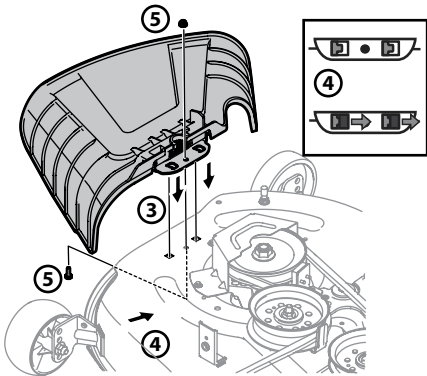

Figure 2-13
3. Place the chute deflector on the deck, be sure to insert the tabs on the chute deflector into the holes on the deck. See Figure 2-13.
4. When the tabs are installed in the deck, slide the chute deflector toward the rear of the tractor until the bolt hole in the chute deflector aligns with the hole in the deck. See Figure 2-13.
5. Secure the chute deflector in place with the flange lock nut and hex screw removed in step 2. Tighten to 102-124 in-lbs. See Figure 2-13.